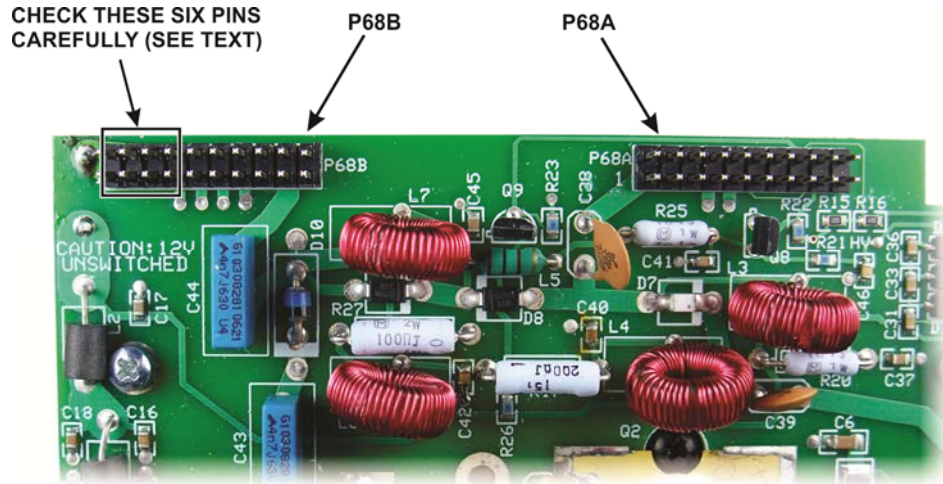

Figure 17. KPA3 Connectors.
- On the KPA3 module, inspect the six pins of P68B (see Figure 17) for corrosion or discoloration from heat just as you did on P67B earlier.